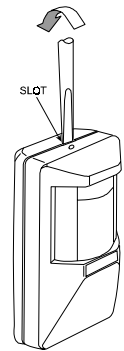

Figure 6. Cover Removal
A. To open the cover, insert a small screwdriver into the slot on top of the unit (Fig. 6). Press the blade in slightly between the cover and the base and lever backwards. The top part of the cover (equipped with the lens) will snap free.